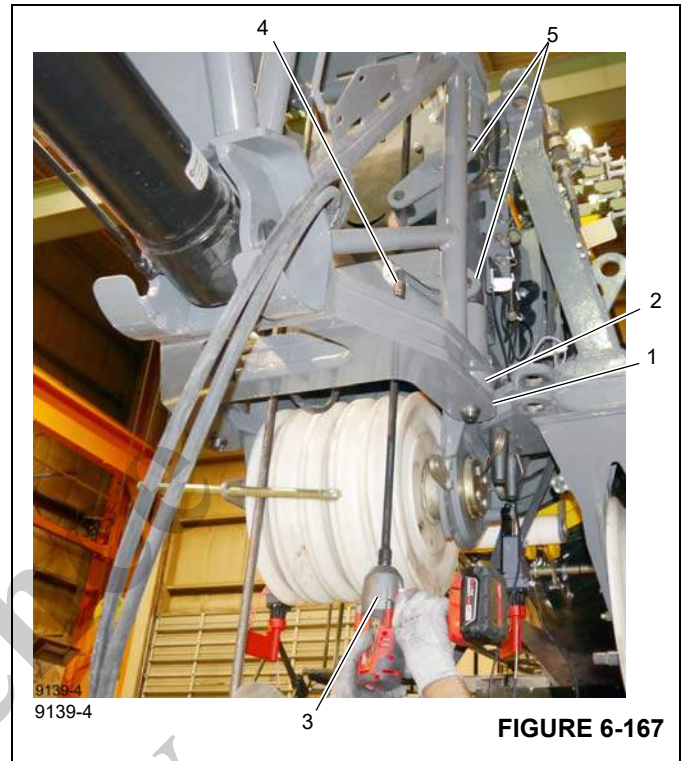

FIGURE 6-167
8. Use the impact driver (3), (Figure 6-167) to turn the jack screw (4), (Figure 6-167) clockwise to remove the pins (5), (Figure 6-167) from the fittings.
13. Swing the heavy duty extension around the boom nose and align the extension attachment fittings (1), (Figure 6-167) with the main boom anchor fittings (2), (Figure 6-167).
14. Use the impact driver (3), (Figure 6-167) to turn the jack screw (4), (Figure 6-167) counterclockwise to insert the pins (5), (Figure 6-167) into the fittings.
- 7. Use the impact driver (3), (Figure 6-167) to turn the jack screw (4), (Figure 6-167) clockwise to remove the pins (5), (Figure 6-167) from the fittings.